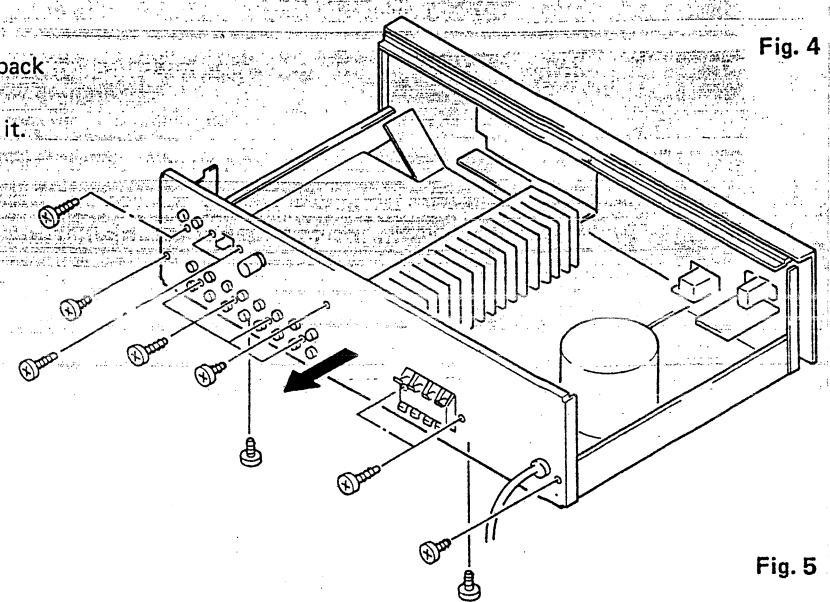

Fig. 5
2. How to remove the back panel (Fig. 5)